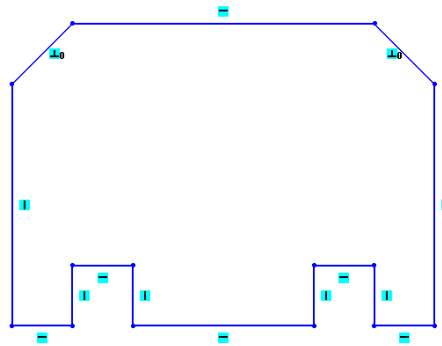

Figure 2-69 Outer loop of the sketch
21. Choose the **Zoom to Fit** tool from the **View (Heads-Up)** toolbar to fit the current sketch into the screen. The outer loop of the sketch is completed and is shown in Figure 2-69. Note that in this figure, the grid display is turned off for better visibility. To turn off the grid display, right-click in the drawing area and then choose the **Display grid** option from the shortcut menu displayed.